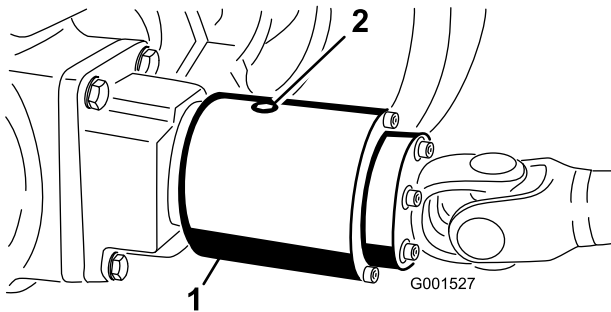

Figure 65
2. Rotate the clutch (Figure 65) so that the check plug is positioned at 4 o'clock.